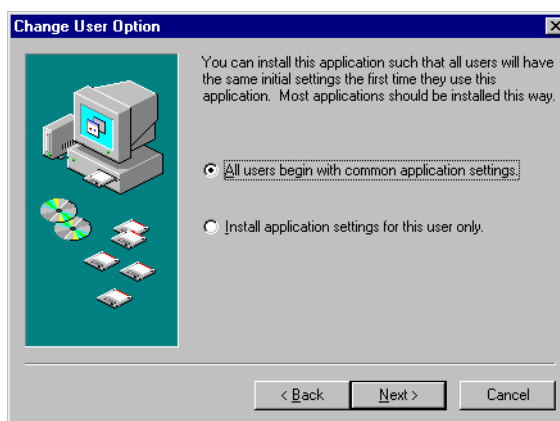

Figure 69. Install - Change User Option
2. When prompted, keep the default **All users begin with common application settings** as shown in Figure 69.